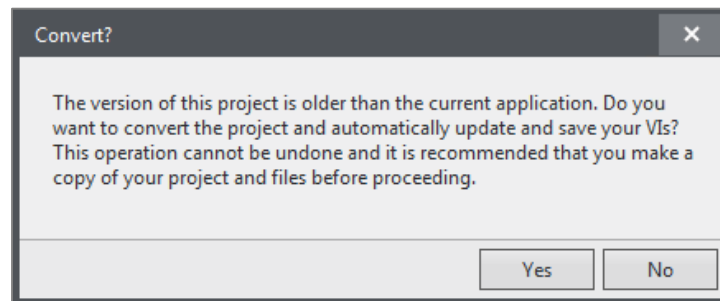

Figure 74: Convert Dialog
3. Click **Yes** to convert as shown in Figure 74.